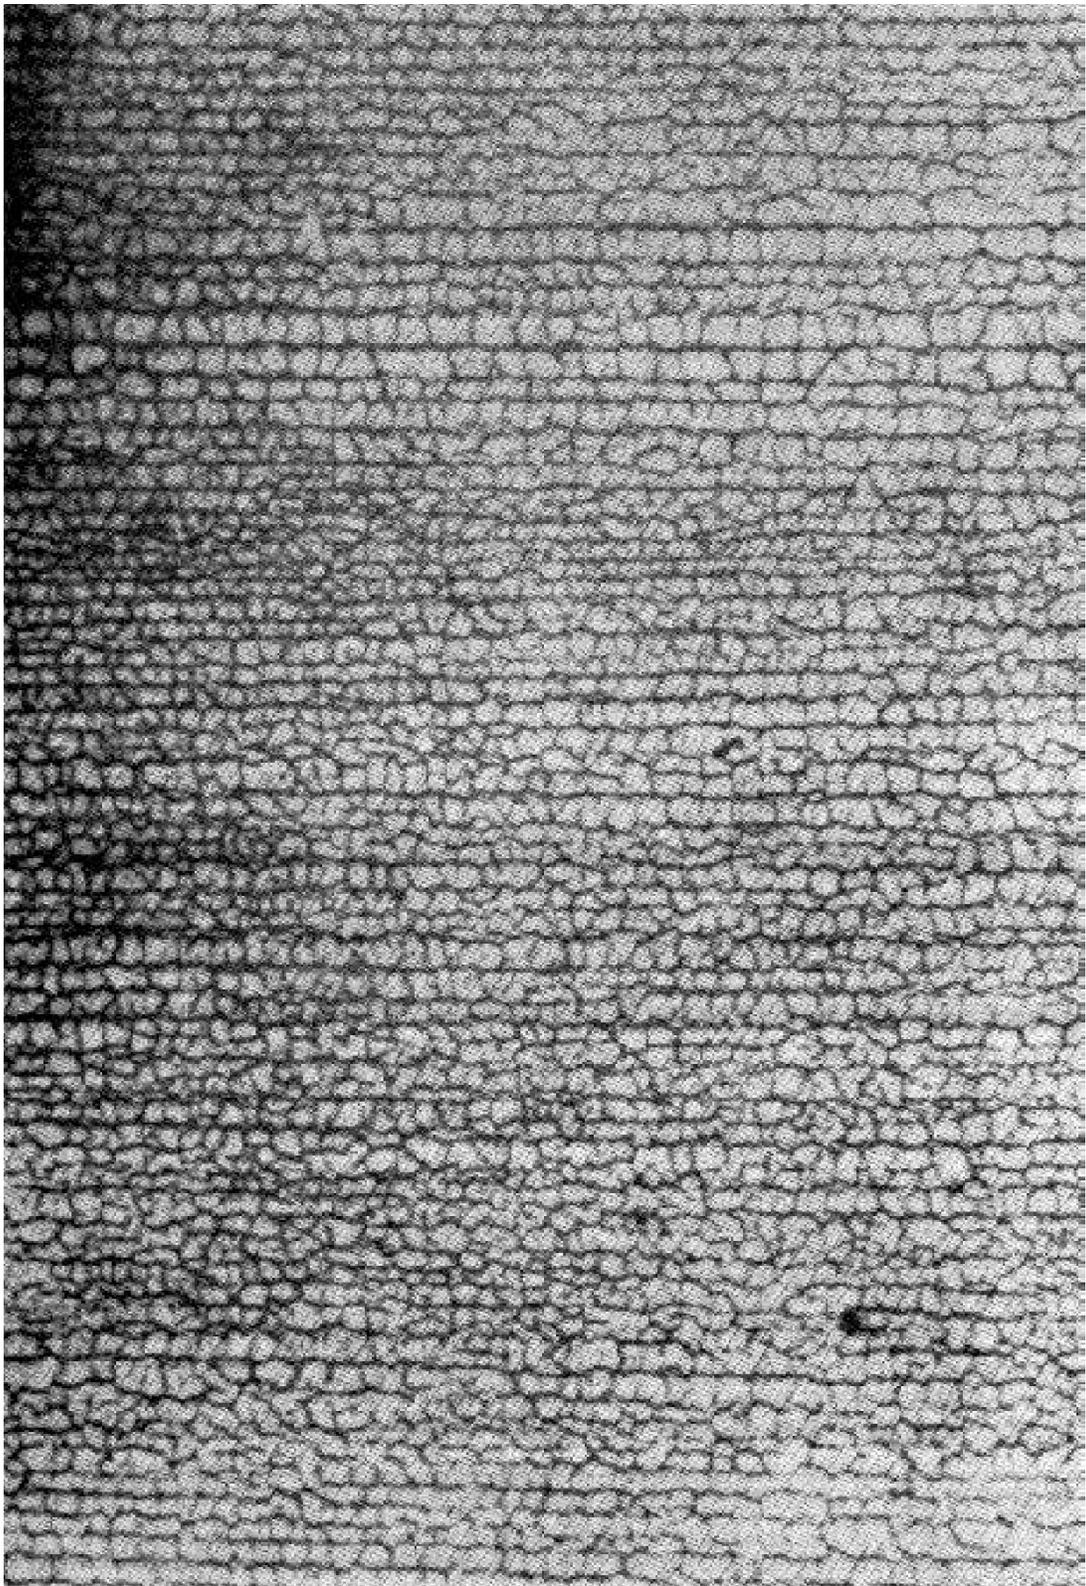
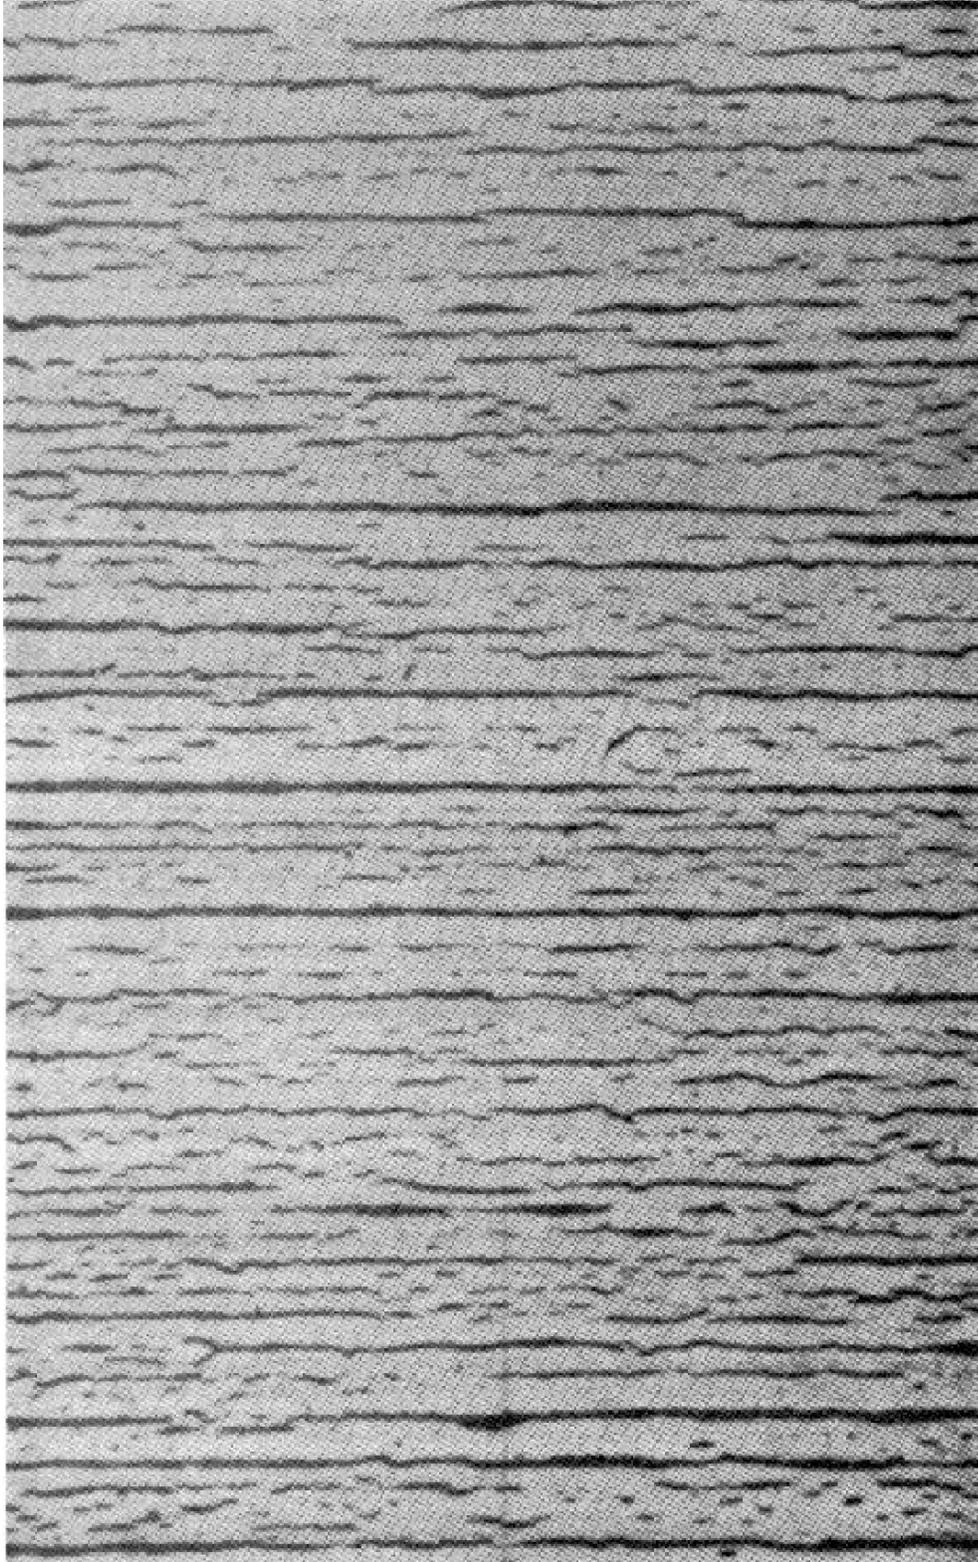

FIGURE 5-7
FIGURE 5-8
b. Checking and Cracking: Checking and cracking describe breaks in the paint film which are formed as the paint becomes hard and brittle. Temperature changes cause the substrate and overlying paint to expand and contract. As the paint becomes hard, it gradually loses its ability to expand without breaking to some extent. Checking is described as tiny breaks which take place only in the upper coat or coats of the paint film without penetrating to the substrate. The pattern is usually similar to a crow's foot (See Figure 5-7). Cracking describes larger and longer breaks which extend through to the substrate. (See Figure 5-8.) Both are a result of stresses in the paint film which exceed the strength of the coating. Whereas checking arises from stresses within the paint film, cracking is caused by stresses between the film and the substrate. Cracking will generally take place to a greater extent on wood than on other substrates because of its grain. When wood expands, it expands much more across the grain than along the grain. Therefore, the stress in the coating is greatest across the grain causing cracks to form parallel to the grain of the wood. Checking and graining area aggravated by excessively thick coatings because of their reduced elasticity.